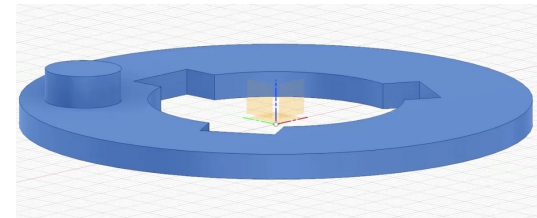

Figure 1.3
- In the browser tree, the entire object highlights as one body, confirming it has not created a separate part (see Figure 1.3) This is useful for pins, bosses, or added thickness.